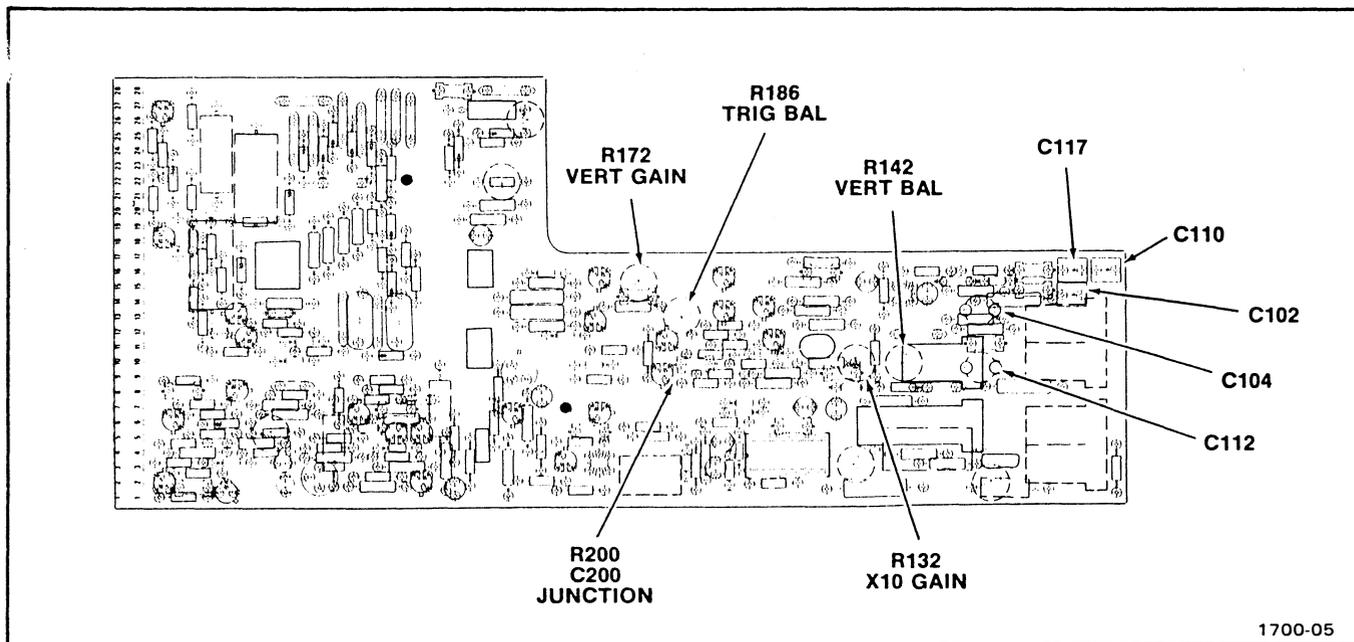

Fig. 3-3. Location of Vertical Amplifier adjustments.
- d. ADJUST—Vertical Bal, R142, so the displayed trace is in the same position as observed in the X10 setting. See Fig. 3-3 for adjustment location.
- a. Connect the digital voltmeter between the R200-C200 junction on the Amplifier circuit board, and chassis ground. See Fig. 3-3 for junction location.
a. Connect the probe of the test oscilloscope to the junction of R200-C200 on the Amplifier circuit board. See Fig. 3-3 for junction location.
c. ADJUST—Vert Gain, R172, for five divisions of deflection over the six horizontal graticule lines. See Fig. 3-3 for adjustment location.
g. ADJUST—The X10 Gain, R132, for five divisions of deflection over the six horizontal graticule lines. See Fig. 3-3 for adjustment location.
d. ADJUST—Vertical compensation, C117, for optimum flat top on the displayed square wave. See Fig. 3-3 for adjustment location.
e. ADJUST—Vertical compensation, C104, for optimum flat top on the displayed square-wave. See Fig. 3-3 for adjustment location.
i. ADJUST—Vertical compensation, C102, for optimum flat top on the displayed square wave. See Fig. 3-3 for adjustment location.
e. ADJUST—Vertical compensation, C112, for optimum flat top on the displayed square wave. See Fig. 3-3 for adjustment location.
i. ADJUST—Vertical compensation, C110, for optimum flat top on the displayed square wave. See Fig. 3-3 for adjustment location.